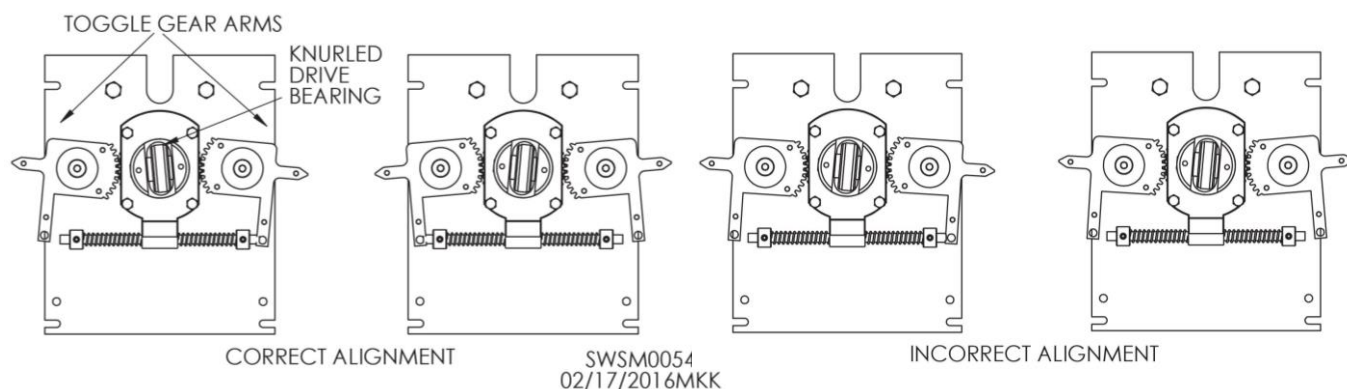

Figure 44 - Alignment of Reversing Mechanism Assembly
- 4 Reversing mechanism assembly is aligned **correctly** when angle of knurled center bearing is opposite angle of the two toggle gear arms. **Figure 44.**